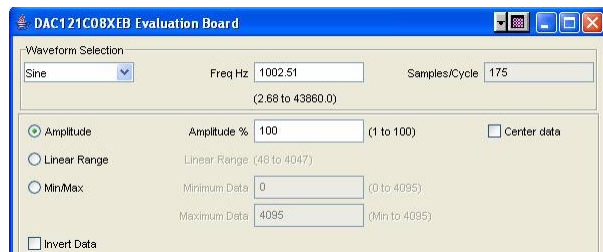

Figure 11: Waveform Configuration
- Configure the digital waveform to be converted by the DAC as seen in *Figure 11*. Please see the *WaveVision4 User's Manual* for detailed instructions. The ability to drive preset waveforms or custom data is provided.